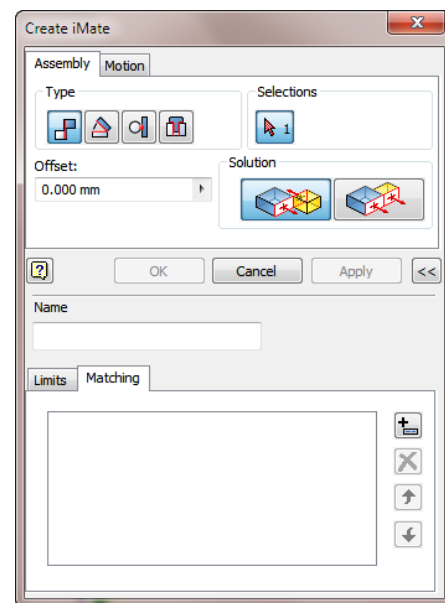

Figure 17-42 The Create iMate dialog box
4. Enter **insert_1** in the **Name** edit box and then choose the **Matching** tab; the **Match List** area is displayed, see Figure 17-42.
6. Enter `insert_2` in the edit box displayed, refer to Figure 17-42.
3. Enter `insert_2` in the **Name** edit box. Note that this is the name you entered in the **Match List** area of the **Create iMate** dialog box while setting the iMate of the shaft, refer to Figure 17-42.